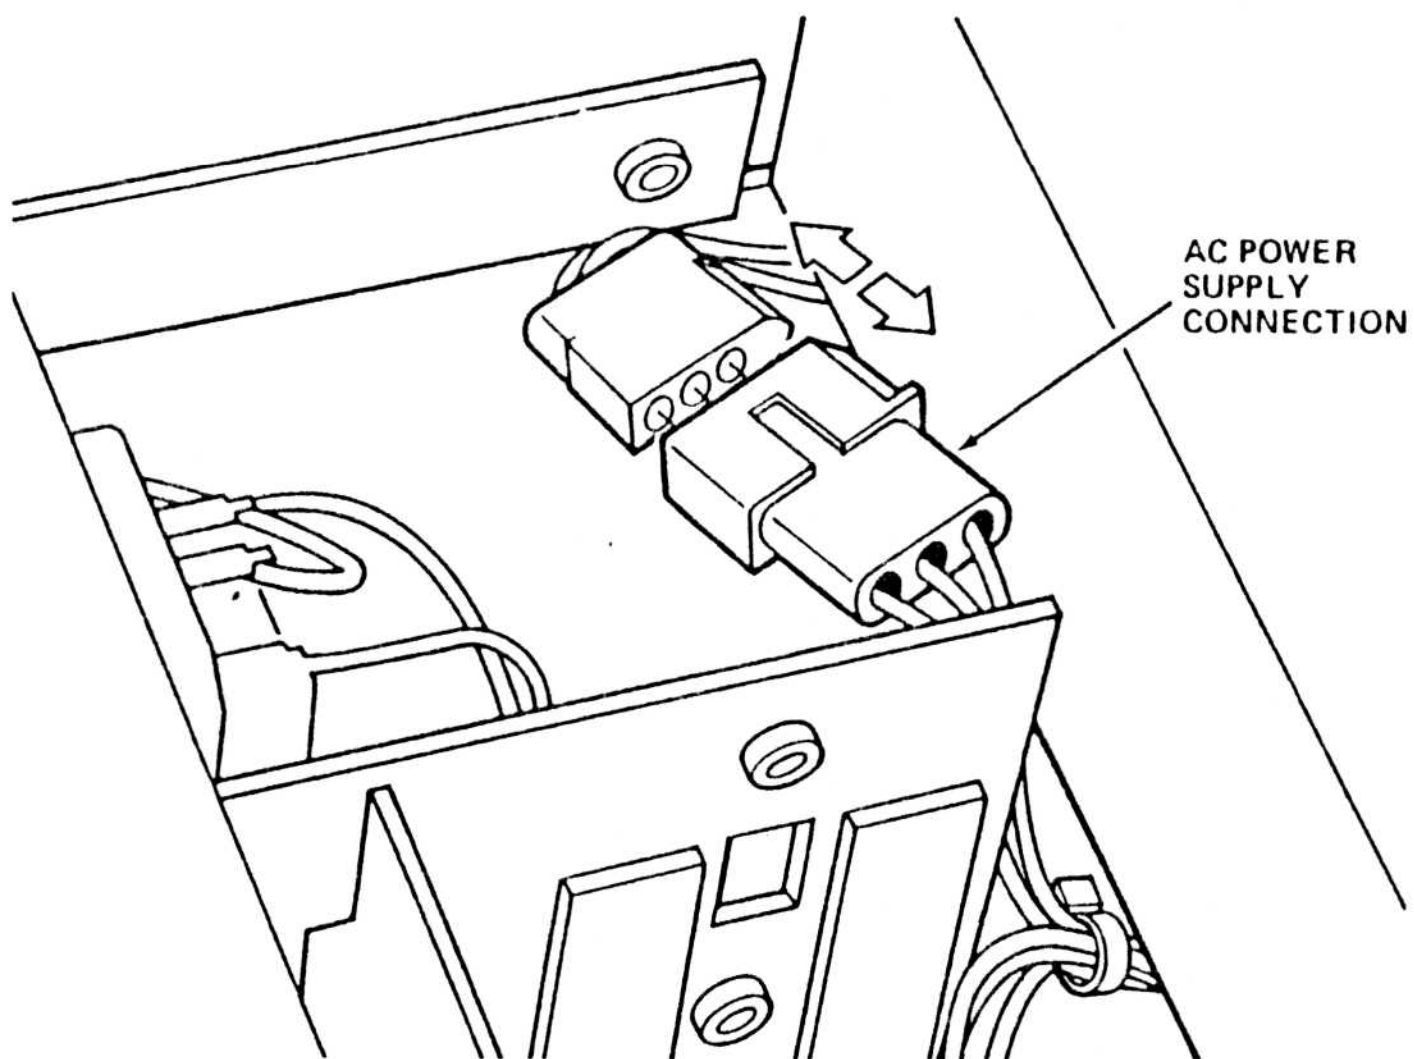

FIGURE 4: AC POWER SUPPLY CONNECTION
- STEP 10** Unplug the three-wire AC power connection in the corner near the ON/OFF switch. Refer to Figure 4.
- STEP 18** Reconnect the three-wire AC power supply. Refer to Figure 4.
- STEP 6** Unplug the three-wire AC power connection in the corner near the ON/OFF switch. Refer to Figure 4.
- STEP 17** Plug in the three-wire AC power connection. Refer to Figure 4.